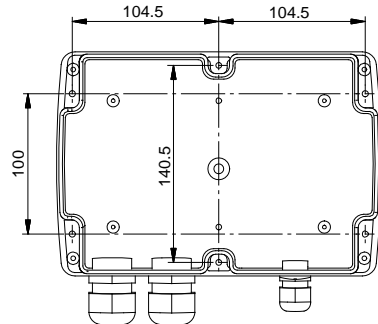

Fig. 1
The box has six mounting holes ( $\varnothing 4$ ). See fig. 1. The dimensions are in mm.
- Horizontally to allow condensed water, if any, to escape. See fig. 1